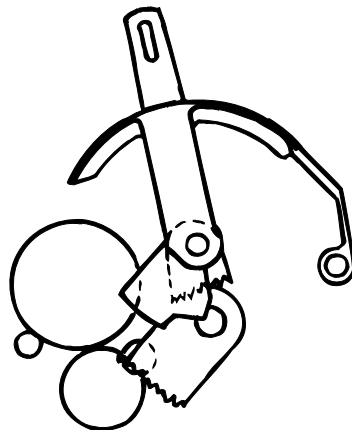

Figure 2-13
## (7) Paper clamp mechanism (See Figure 2-13.)
- 1) Set the change lever to the **TOP** position. (See Figure 2-13.)
- 1) Set the change lever either to the rear side or the bottom side position. (See Figure 2-13.)